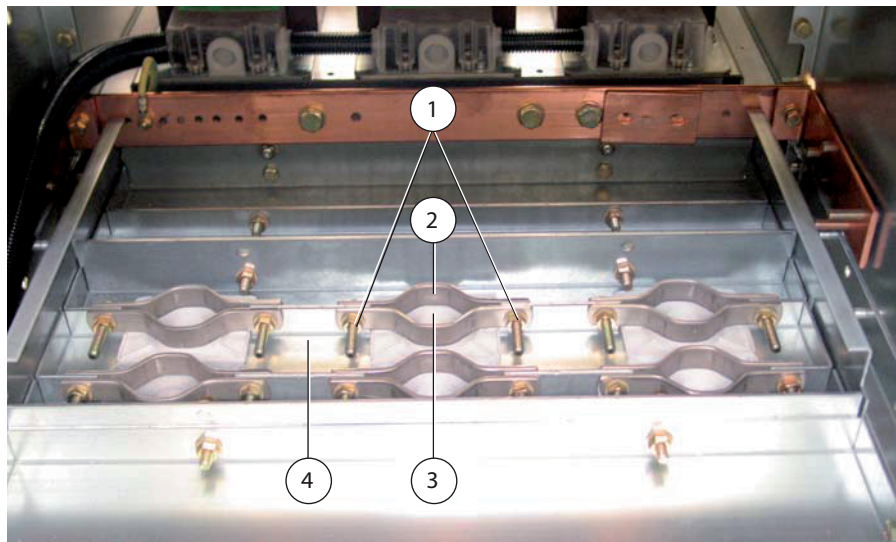

Figure 59
1. Release fastening of cable clips (Figure 59, 1).
2. Remove cable clips (2).
3. Remove rubber sleeves (3).
4. Remove base plate (4) as required.